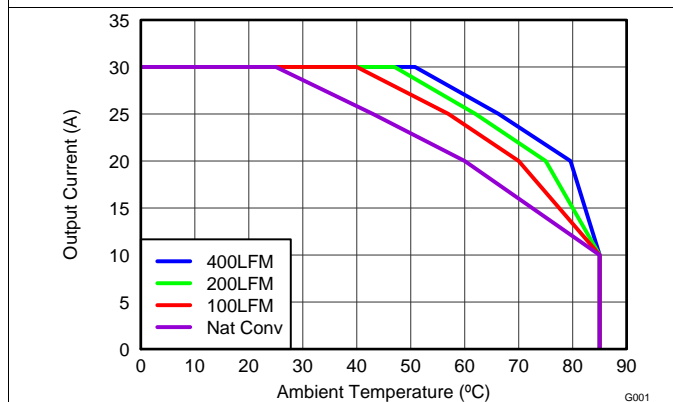
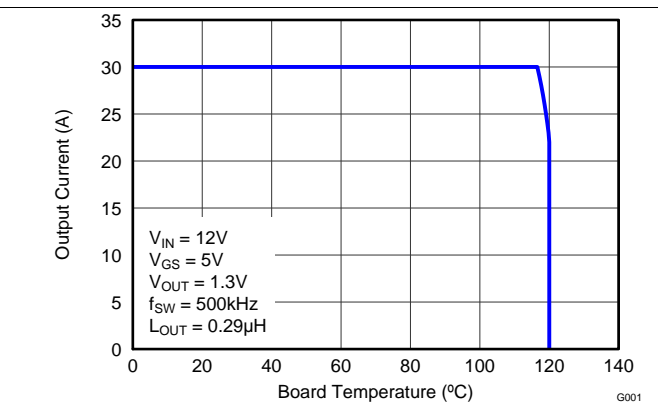

Figure 3. Safe Operating Area – PCB Horizontal Mount
Figure 4. Typical Safe Operating Area
$T_j = 125^{\circ}\text{C}$ , unless stated otherwise. For Figure 3 and Figure 4, the Typical Power Block System Characteristic curves are based on measurements made on a PCB design with dimensions of 4.0 inches (W) x 3.5 inches (L) x 0.062 inch (H) and 6 copper layers of 1 oz. copper thickness. See *Application and Implementation* for detailed explanation.
$T_J = 125^\circ\text{C}$ , unless stated otherwise. For Figure 3 and Figure 4, the Typical Power Block System Characteristic curves are based on measurements made on a PCB design with dimensions of 4.0 inches (W) x 3.5 inches (L) x 0.062 inch (H) and 6 copper layers of 1 oz. copper thickness. See Application and Implementation for detailed explanation.
The SOA curves in the CSD87384M data sheet provide guidance on the temperature boundaries within an operating system by incorporating the thermal resistance and system power loss. Figure 3 to Figure 4 outline the temperature and airflow conditions required for a given load current. The area under the curve dictates the safe operating area. All the curves are based on measurements made on a PCB design with dimensions of 4 inches (W) × 3.5 inches (L) × 0.062 inch (T) and 6 copper layers of 1 oz. copper thickness.